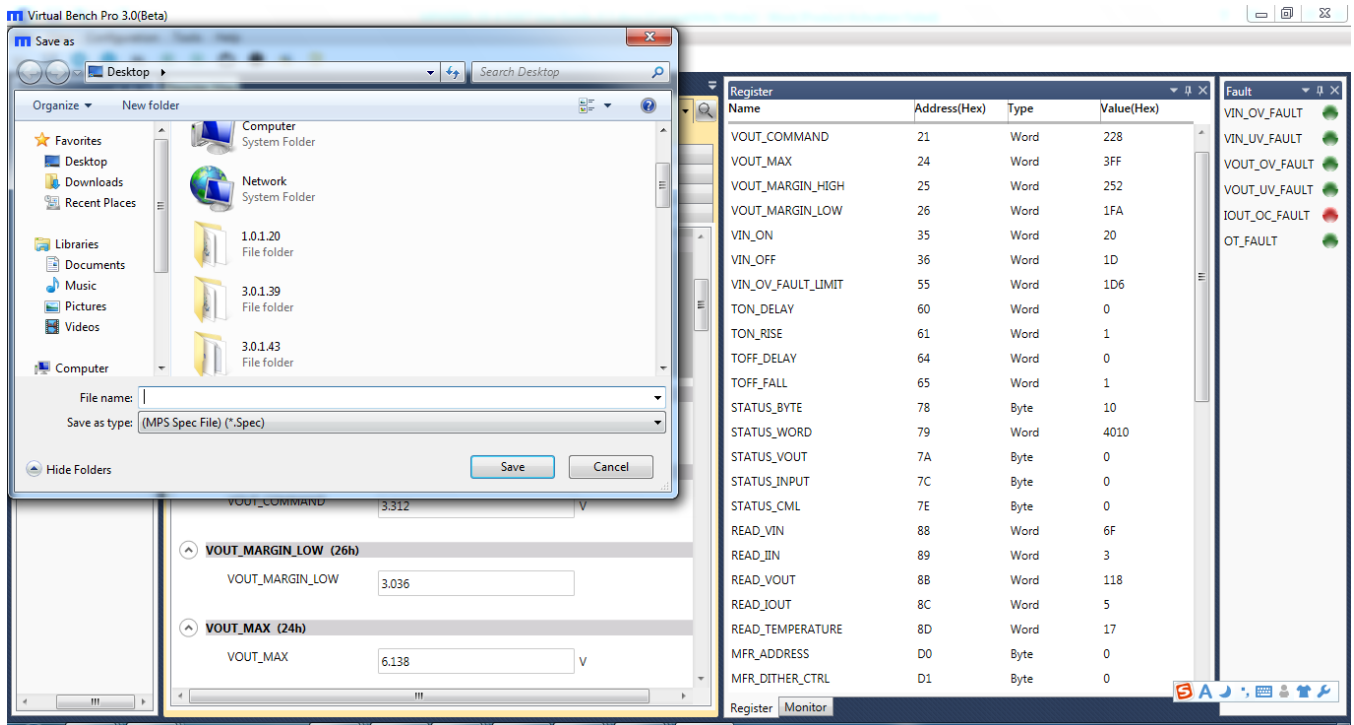

Figure 11: Select the Directory for Configuration File
- Export the configuration by clicking “Save Configuration.” Select the desired directory for the exported file and click “OK.” New configurations will be saved in a text file (see Figure 11).